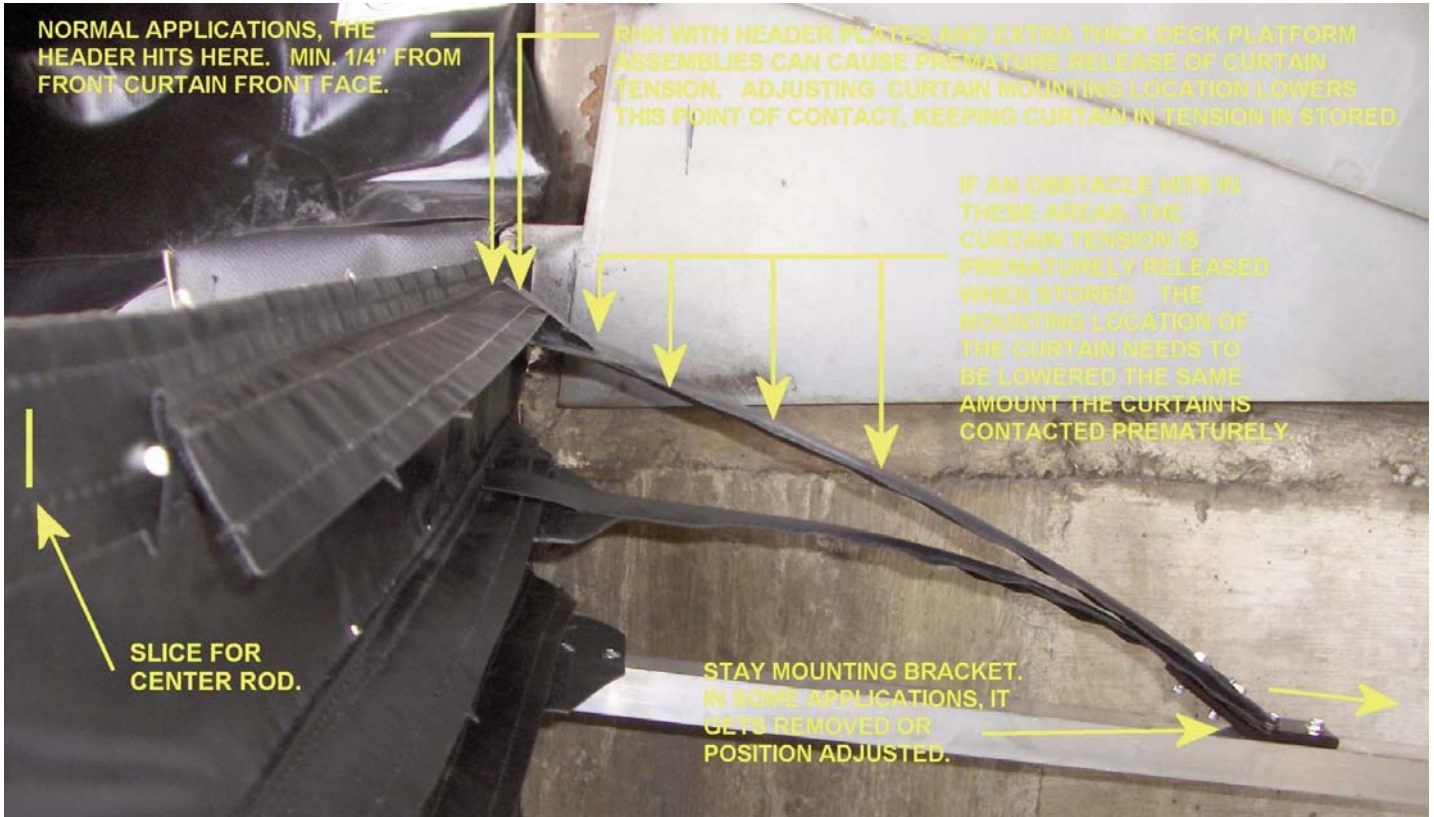

FIGURE 27
curtain to be more flexible. This should always be done when in a non standard mounting location. (See Figures 27 & 28.)
2. Next, adjust the location of the spring stays on the pivot arm assembly. There are actually three holes on the aluminum pivot arm. The front two are normally used to hold the mounting bracket in place. Remove the fasteners. Shift the bracket back to utilize the back two holes and reinsert the fasteners. (See Figure 27) (Note: In some instances, more adjustments of the pivot arm assembly mounting bracket attached to pit floor is required.) (Reference sections "Adjusting Above and Below Dock Coverage" and "Getting Around Obstacles" for more details on how the spring arm assemblies are affected in nonstandard situations.)
1. Remove the spring stays from the aluminum pivot arm by removing spring stay bracket. (See Figure 27.)
2. Next, adjust the location of the spring stays on the pivot arm assembly. There are actually three holes on the aluminum pivot arm. The front two are normally used to hold the mounting bracket in place. Remove the fasteners. Shift the bracket back to utilize the back two holes and reinsert the fasteners. Check to make sure spring stays do not touch the backside of the leveler lip. (See Figure 27) (Note: In some instances, more adjustments of the pivot arm assembly mounting bracket attached